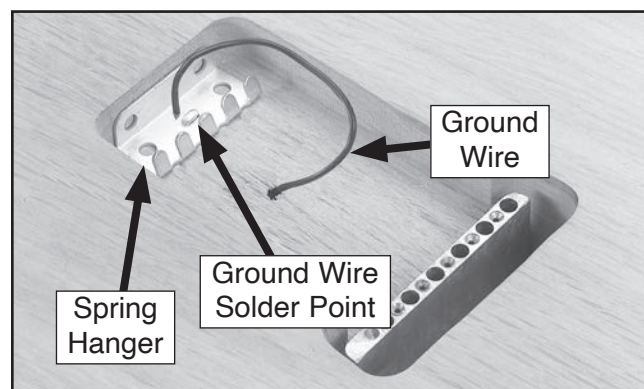

Figure 11. Spring hanger placement.
4. Secure tremolo bridge to guitar body with (6) M4 x 25 wood screws.
5. Turn guitar body over and place spring hanger in cavity, as shown in **Figure 11**.